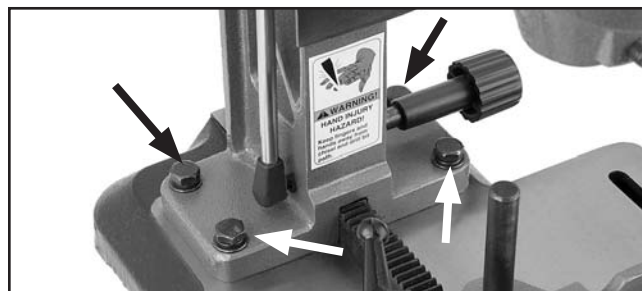

Figure 14. Hex bolts and washers securing column to base.
6. Remove the four M8-1.25 x 25 hex bolts, flat washers and lock washers securing the column to the base, shown in **Figure 14**, and temporarily lay the headstock on its side on the workbench.